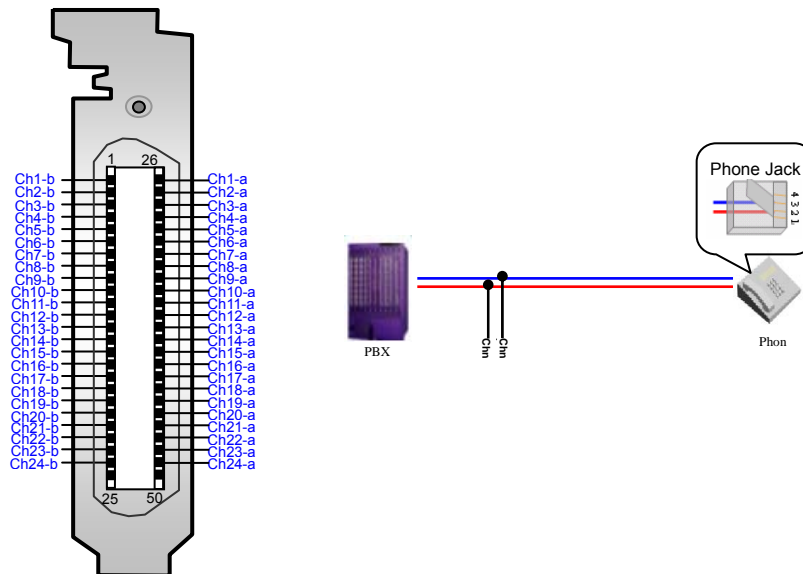

Figure 2-12
② In case of direct connection to the on-board RJ21 connector, we suggest the following connection methods:
a. Connection by 2-lead lines: Simply perform a corresponding connection with CHn-a and CHn-b as shown in Figure 2-12 below.